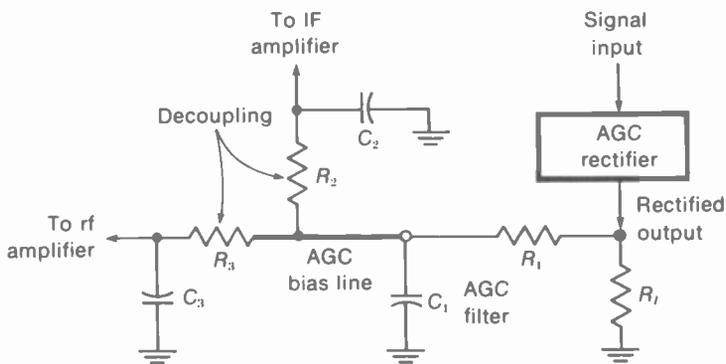

FIGURE 15-2 BASIC REQUIREMENTS OF THE AGC CIRCUIT.
The circuit of Fig. 15-2 illustrates how the AGC bias is used to reduce the receiver gain for strong signals. This idea is the same as automatic volume control (AVC) in radio receivers. With AVC, the purpose is to have relatively con-
**AGC rectifier.** In Fig. 15-2, the AGC rectifier stage changes the ac signal input to dc output for the AGC bias. More signal input produces more AGC bias; less signal means less bias. The ac input to the AGC rectifier can be either IF signal or video signal. The load resistor for the AGC rectifier is  $R_L$ , which produces dc voltage output proportional to the ac signal input.
**AGC filter time constant.** The rectified voltage across the AGC load resistor  $R_L$  must be filtered to remove the signal variations, since a steady dc voltage is needed for bias. This is the function of the AGC filter  $R_1C_1$  in Fig. 15-2. The  $R_1C_1$  time constant\* is about 0.2 s. A shorter time constant will not filter out the low-frequency variations in the rectified signal. Specifically, the vertical sync voltage can vary the AGC bias, which causes bend in the picture. Too long a time constant will not allow the AGC bias to change fast enough when the receiver is tuned to stations having different signal strengths. In addition, a long time constant will not remove the variations of picture intensity caused by fading of the signal when an airplane is flying nearby.
**AGC decoupling filters.**  $R_2C_2$  and  $R_3C_3$  in Fig. 15-2 isolate each amplifier stage from the common AGC line. The isolation results from the series resistance of  $R_2$  or  $R_3$ . This resistance reduces feedback between stages through the AGC filter capacitor as a common impedance. However, each decoupling resistor needs its bypass capacitor  $C_2$  or  $C_3$ . The low capacitive reactance completes the ac signal path to ground
**Types of AGC circuits.** The circuit in Fig. 15-2 is called simple AGC. In *delayed AGC*, there is no AGC bias at all unless the antenna signal is above a specific level, generally about 1 mV. The purpose is to prevent any reduction in gain by AGC action when the signal is weak. Usually, the AGC bias for the rf amplifier is delayed. The result is a better signal-to-noise ratio, for weak signal, to minimize snow in the picture.